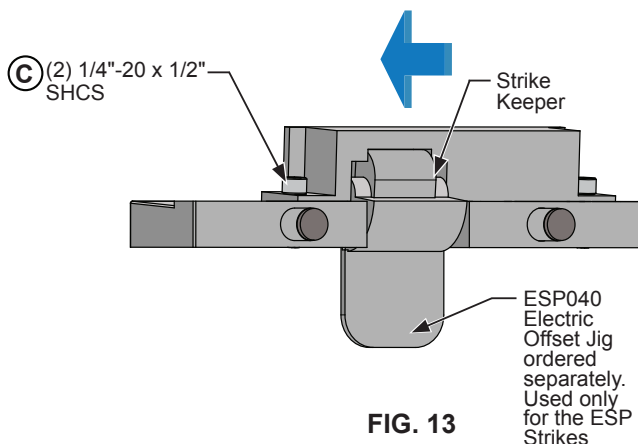

FIG. 13
- F) Push and hold the Strike Keeper in against the Jig and re-tighten the **(C)** (2) 1/4"-20 x 1/2" SHCS. **(Fig.13)**